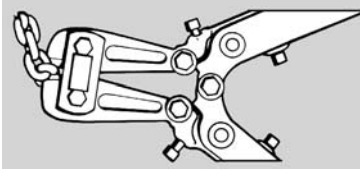

Figure 18. Cutting Chain with a Bolt Cutter
(3) Chain may also be cut using a blot cutter (Figure 18) similar to the H.K. Porter No. 0590MTC with special cutter jaws for cutting hardened chain (1 inch., 25.4mm) long cutting edge).